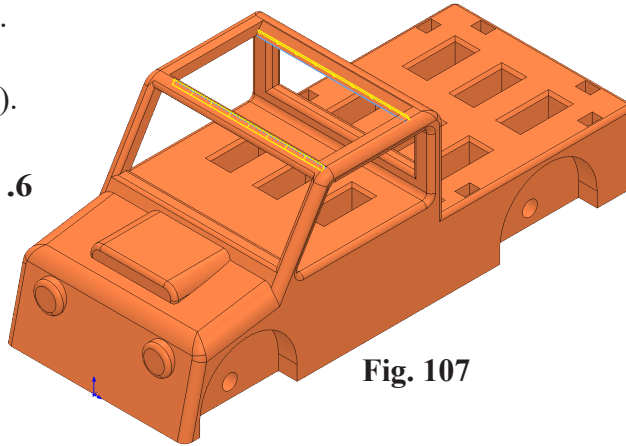

Fig. 107
click **inside bottom front and rear edge of sunroof (2)**, **Fig. 107**